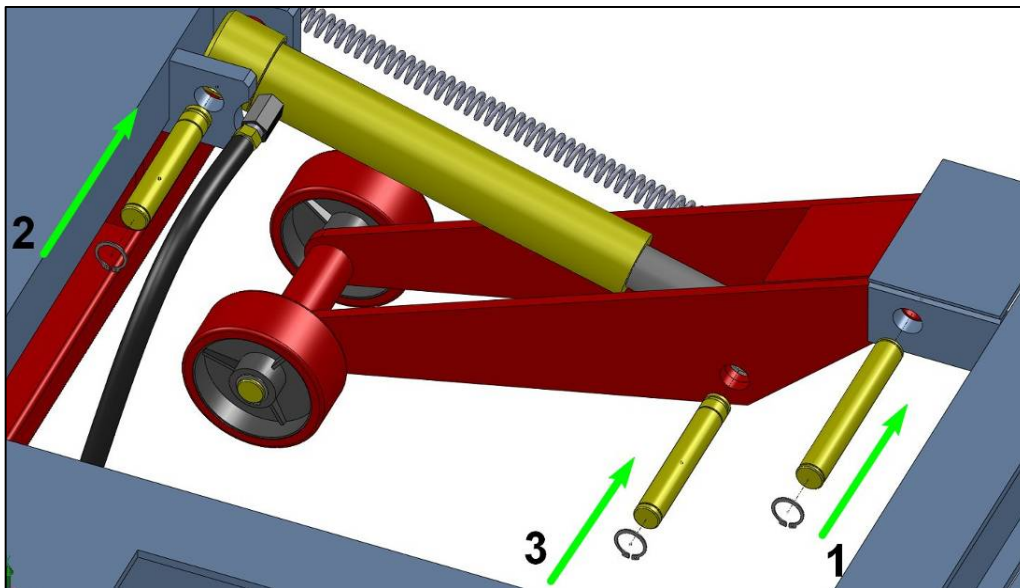

Figure 6.7
3. Install all the axes according to the figure 6.7, to install the lifting support on the platform.